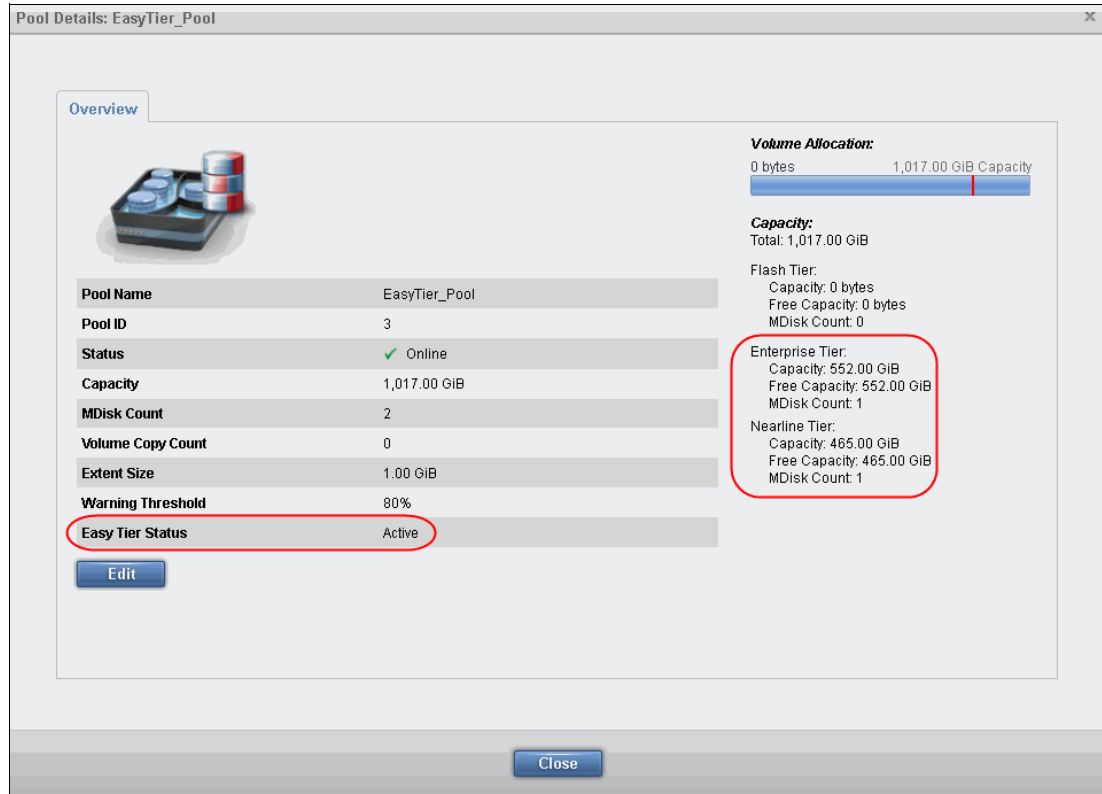

Figure 9-21 Multitiered Storage Pool
9. Figure 9-21 shows the Storage Pool changed to a multitiered Storage Pool containing Enterprise and Nearline tiers. The Storage Pool icon changes from a single-tiered to a multitiered characteristic.